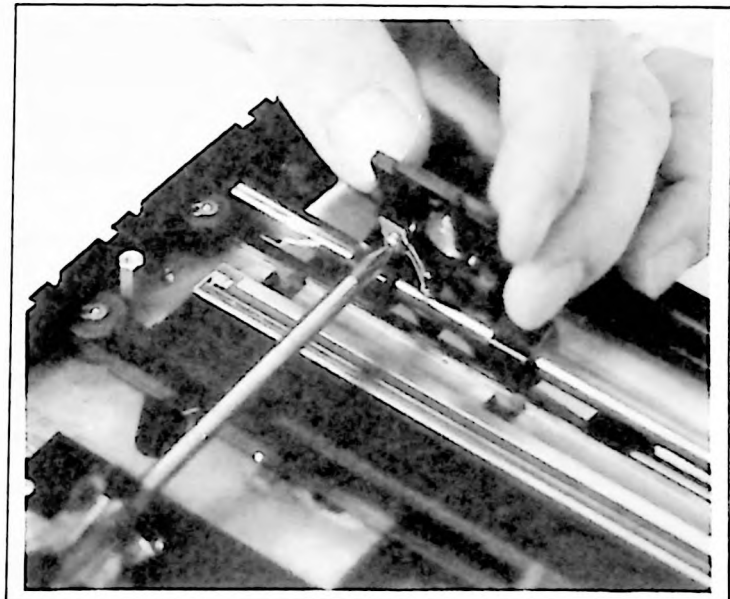

Figure 5-10. Wiper Removal
c. Unscrew two screws holding extrusion bar. See Figure 5-10. Slide extrusion bar back to gain access to slider block.
d. Rotate slider block upwards carefully. Unscrew wiper. See Figure 5-10.